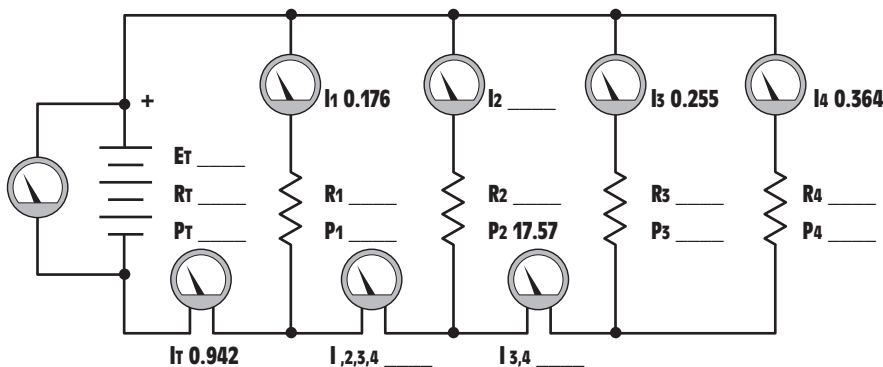

Figure 6-26 Practice Problem 1.
1. Find the missing values in the circuit shown in *Figure 6-26*.